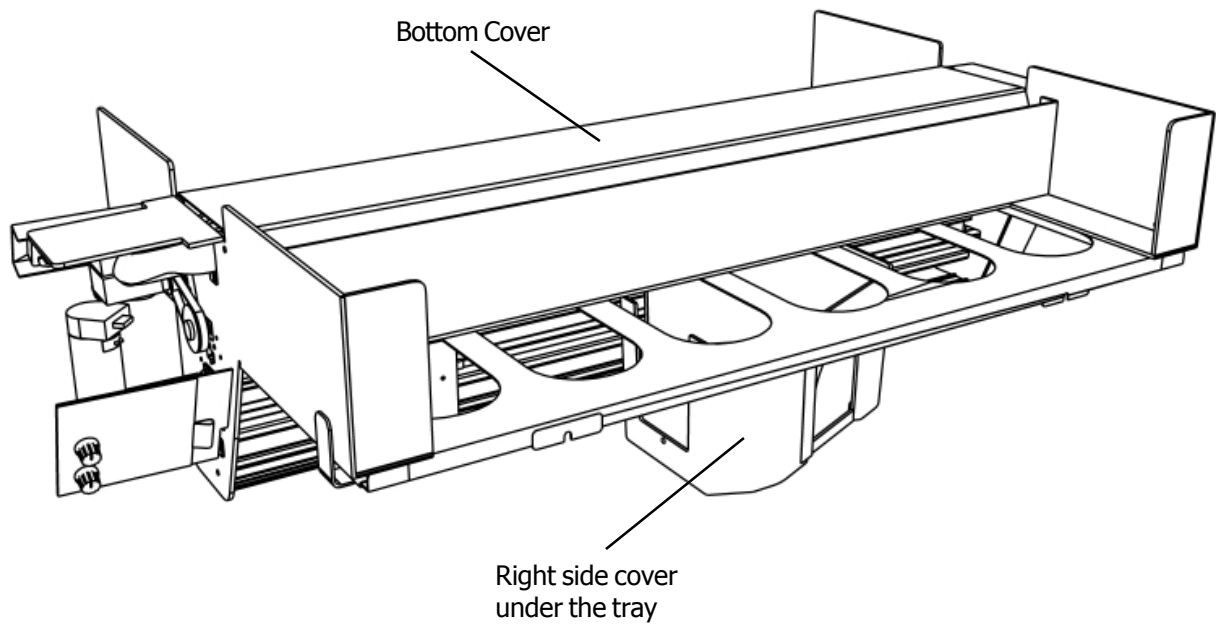

**Fig. 5-5** Turn 350HF over, and place right side cover under tray
4. Use your assistant to help you flip the 350HF cutter over onto its top dust cover. Use the right side cover to place under the tray so it doesn't fall over while it's on its top. See figure 5-5